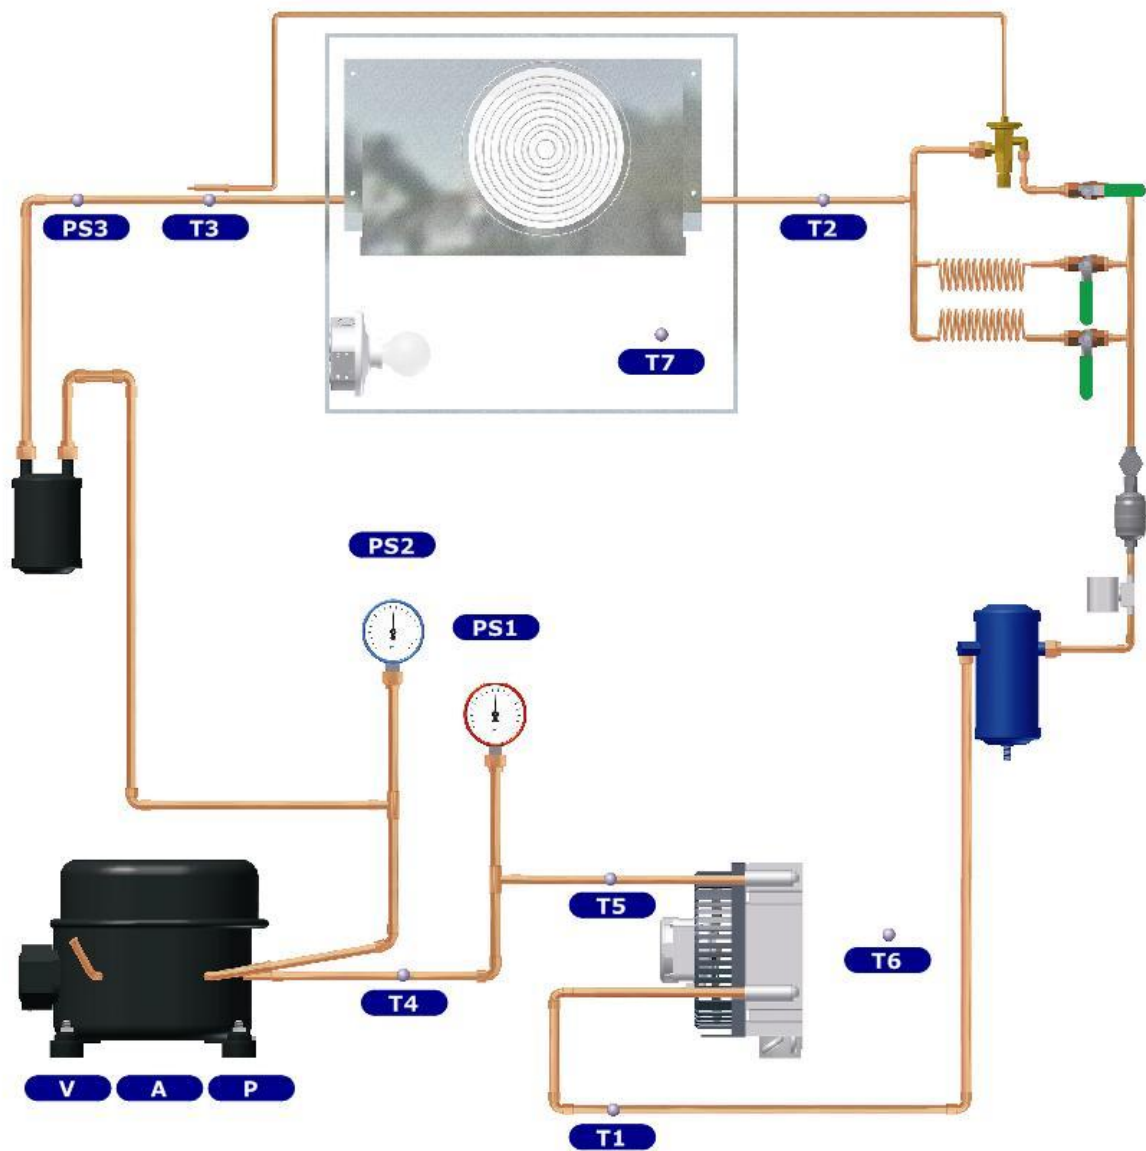

Figure 1 Lab-Volt Refrigeration Demonstration System
- a) Identify all the major parts in Figure 1.